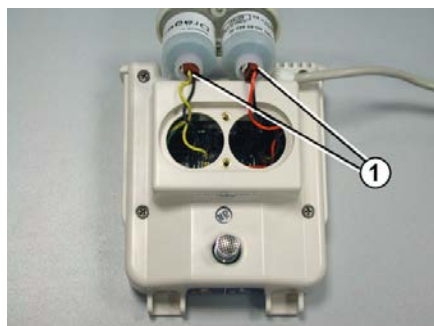

Fig. 20 Sensor module: jacks
- 18** Fit the jacks (Fig. 20/1) firmly onto the connectors of the new oxygen sensors.